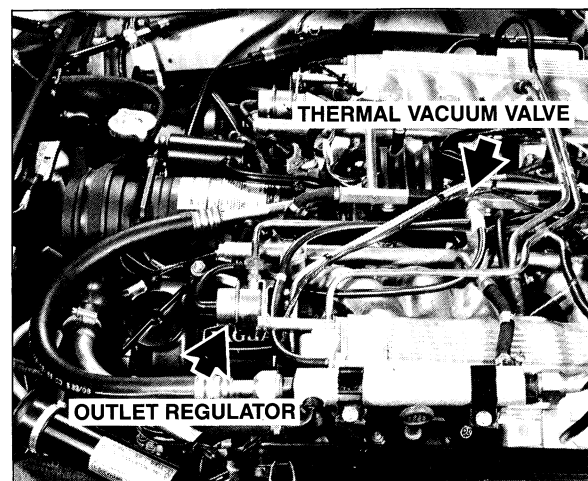

FIG 5
**NOTE:** If the fuel temperature is high, the fuel pressure thermal vacuum valve (FIG 5) will be activated, causing the pressure to rise to maximum.
If the fuel pressure is less than specification, check the outlet regulator (FIG 5); if more than specified, check the fuel return system.